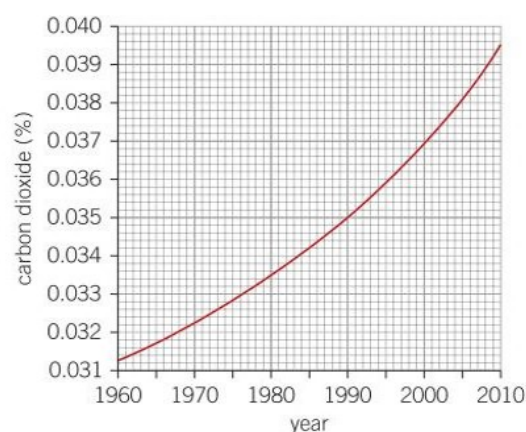

Figure 2 The change in the levels of carbon dioxide in the atmosphere over time is shown by this graph
Figure 2 shows the data collected by scientists monitoring the proportion of carbon dioxide in the atmosphere at one location. The overall trend over the recent past has been ever upwards.
- 4 Look at the graph in Figure 2: